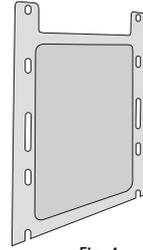

Fig. 4
**Pannelli catalitici laterali (Fig. 4)**